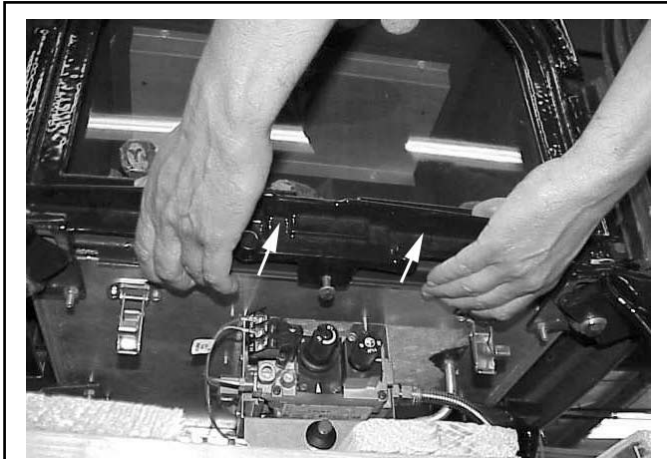

Figure 5
3. Reach under the bottom front of the front glass enclosure and pull it forward as shown in **Figure 5**.